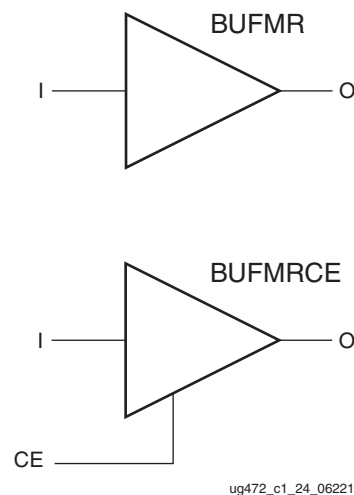

Figure 2-24: BUFMR and BUFMRCE Primitives
BUFMRs (Figure 2-24, Table 2-9, and Table 2-10) are a clock-in/clock-out buffer with clock enable (CE). Deasserting CE stops the output clock. BUFMRs must drive BUFRs and BUFIOs to route to the same region/bank and adjacent regions/banks. BUFMRs are driven by the MRCCs or the GT clocks in the same region.